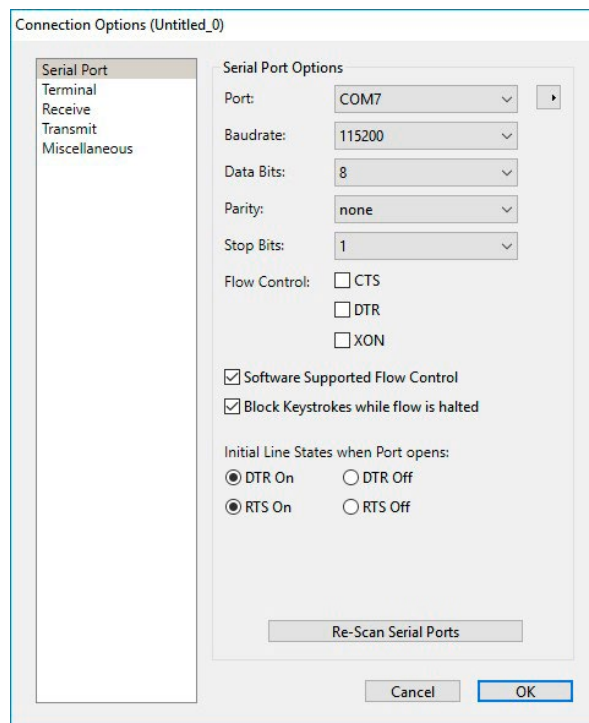

Figure 6. Coolterm Options Setting
- b. In Coolterm, click Options and set the Port pull-down to the COM port found earlier (e.g. COM7). Furthermore, set the baud rate to 115200 as show below. Click OK to close. See Figure 6.